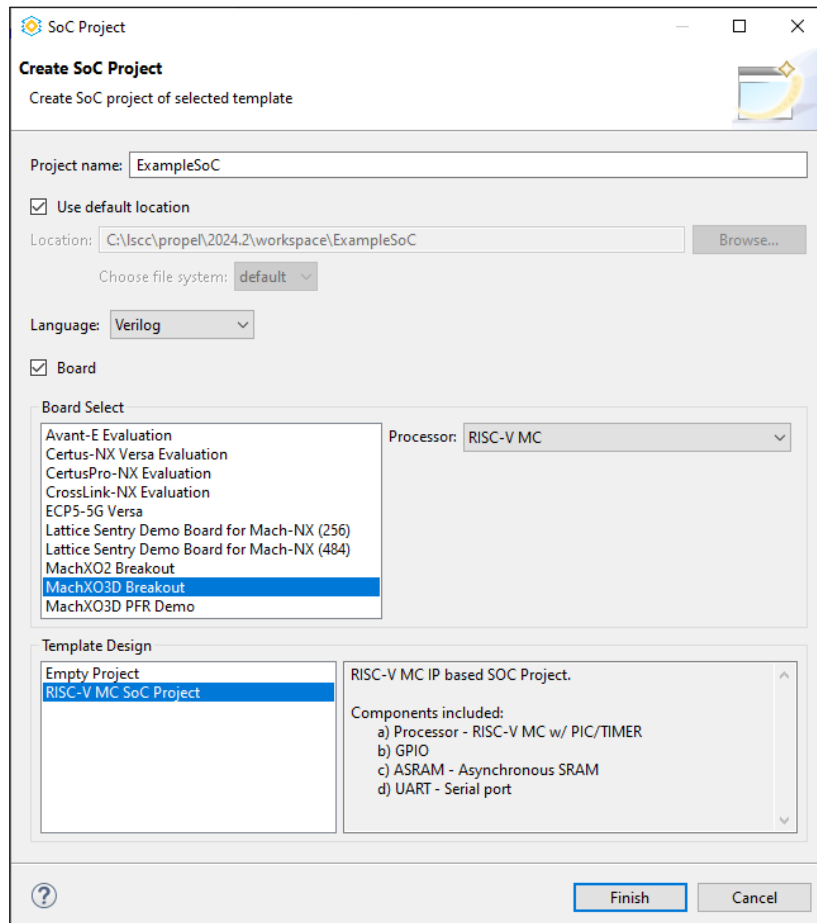

Figure 3.12. Specify a Board for Template SoC Project
- Or, to specify a board for a new Template SoC project, check the **Board** checkbox (Figure 3.12).